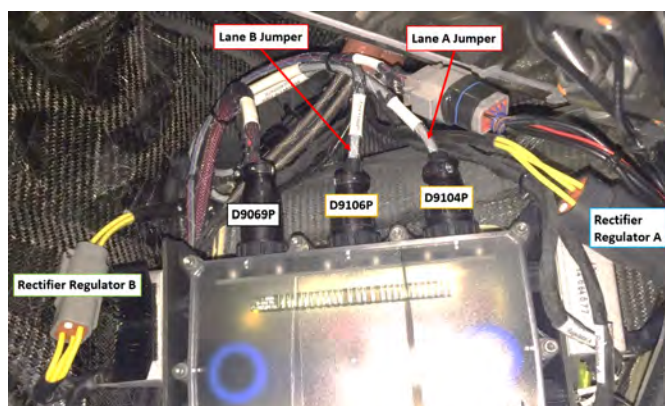

FIGURE 16-58
3. Disconnect the three connectors as shown in Figure 16-58. Retain O-rings.
9. Ensure O-rings are installed and connect the three cannon connectors. See Figure 16-58.